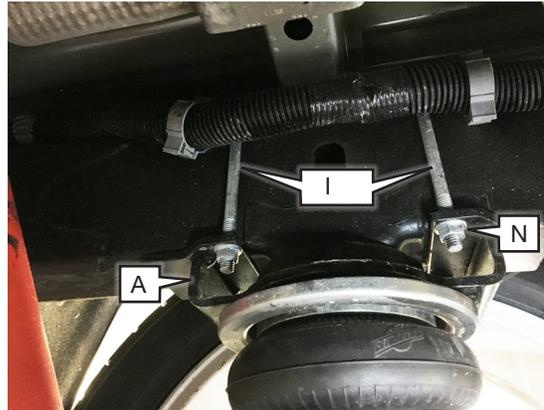

fig. D.19
2. Lower the vehicle or raise the axle while inserting the threaded portions of the U-bolts (I) through the corresponding holes in the upper brackets (A). Install flange nuts (N) finger tight (Fig. D.19).